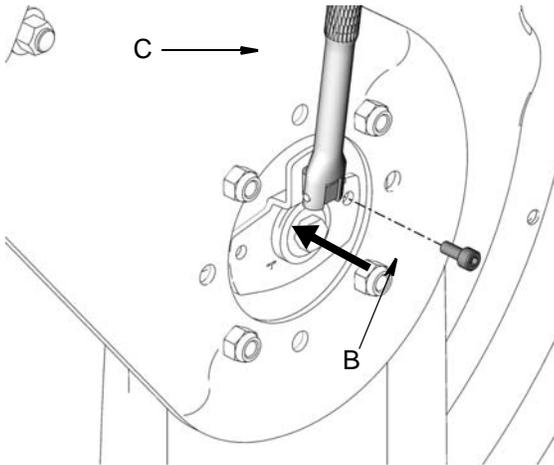

FIG. 15
5. Replace one screw (B). Leave ratchet (C) in place (FIG. 15).